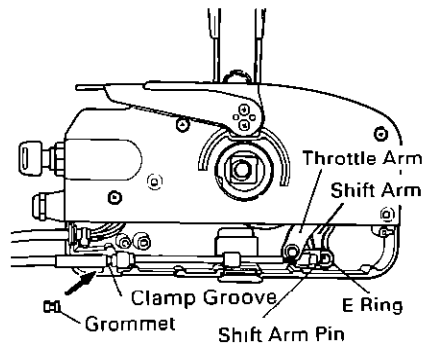

Fig. 6
Place the Terminal Eye on the pin of the Shift Arm and attach it with the E-ring. (Fig. 6)
- ④ Insert the grommet into the clamp groove of the Remote Control Box. (Fig. 6)